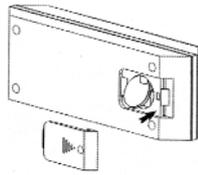

Figure 2
2. Insert the battery (CR2032) into the space between the anode clip and the cathode clip, "+" side up. (Fig.2)